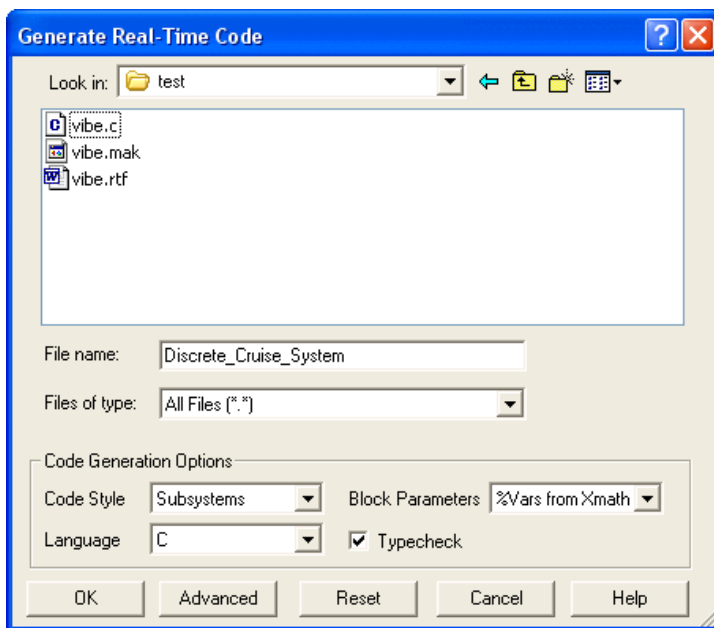

Figure 5-1. Generate Real-Time Code Dialog Box
5. From the Catalog Browser, select **Tools»AutoCode** to bring up the **Generate Real-Time Code** dialog box, as shown in Figure 5-1.